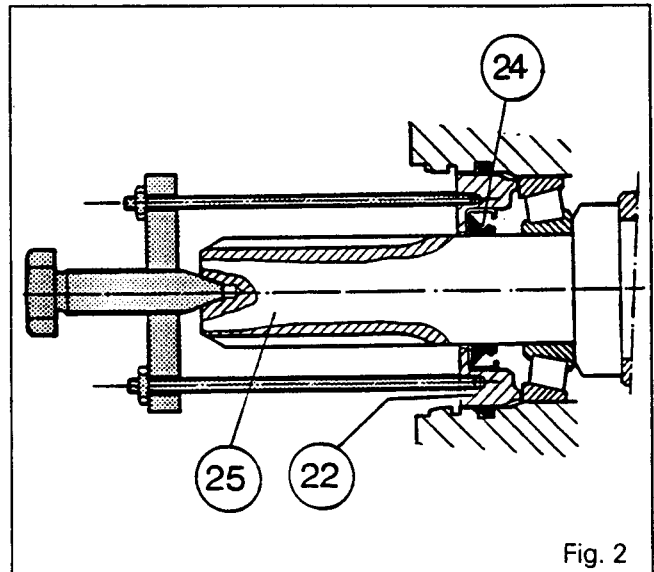

Fig. 2
4. Remove the circlip (23).
5. Protect the splined section of the shaft (25). Extract the cap (22) with its seal (24) using the locally made tool (see section E). Remove the seal (24) (Fig. 2).
6. Remove the O-ring (21).
7. Remove the shims [20] and the cup (18).